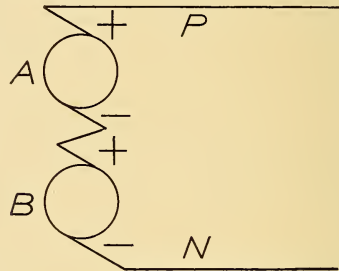
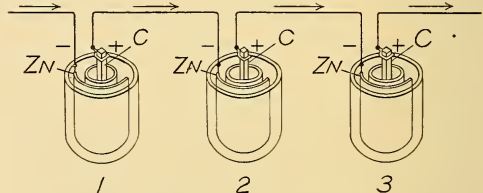
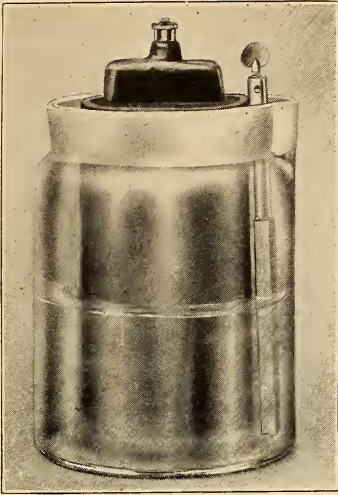

FIG. 10. DYNAMOS CONNECTED IN SERIES.
FIG. 11. THREE LE CLANCHE CELLS CONNECTED IN SINGLE BATTERY CIRCUIT.
FIG. 12. LE CLANCHE OR SINGLE FLUID CELL.
example, two dynamos, (A) and (B) are connected as shown in Fig. 10, they will be connected in series. To do this it is only necessary to connect the negative pole or brush of one of the dynamos (A), with the positive brush of the other dynamo (B), thus leaving the free posi-
the two elements are excited by a single liquid. As shown in Fig. 12, the elements consist of zinc and carbon. The carbon element consists of a plate of hard carbon placed inside a porous cell or cylinder of unglazed earthenware that is tightly packed with a mixture of black oxide of manganese and finely broken gas-retort carbon, so as to bring the mixture with pressure against the sides of the carbon plate. Both the zinc rod and the porous cell are immersed in a solution of sal-ammoniac and water. As will be seen from an inspection of Fig. 11, in order to connect these cells in series, the carbon or positive pole of cell No. 1, is connected with the zinc or negative pole of cell No. 2, while the carbon of cell No. 2, is connected with the zinc or negative pole of cell No. 3, thus leaving two free poles, i. e., the zinc or negative pole of cell No. 1, and the carbon or positive pole of cell No. 3, as the negative and positive poles respectively of the battery. In this case, as in the case of the battery of dynamos represented in Fig. 10, the electromotive force of the three series-connected cells is equal
example, three LeClanche cells represented in Fig. 11. In order to connect them in a series battery it is only necessary to proceed as in the case of the dynamo-electric-machine, and connect their opposite poles or terminals in the manner indicated.